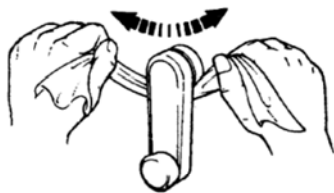

Fig. 4.1-2
- 3) Glass regulator handle. The method is to foist a piece of cloth into circlip, tear down, to disassemble glass regulator handle. See Fig. 4.1-2.